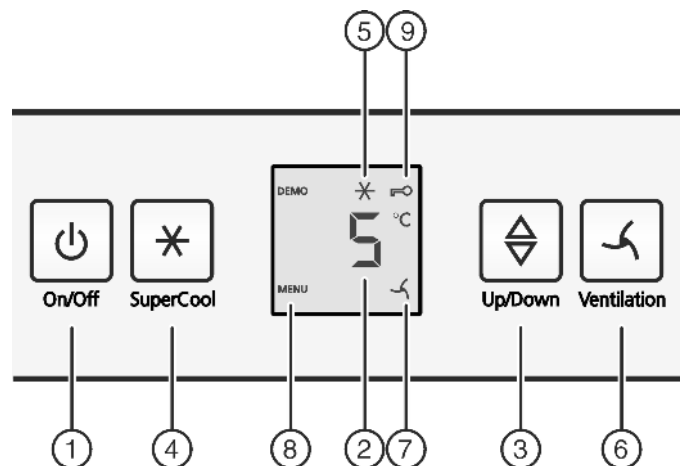

Fig. 3
- ▶ Press the On/Off button *Fig. 3 (1)*.
- ▶ Press the SuperCool button *Fig. 3 (4)* for about 5 seconds.
- ▷ The Menu symbol is shown on the display, *Fig. 3 (8)*.
- ▶ Confirm briefly with the SuperCool button *Fig. 3 (4)*.
- ▷ The child lock symbol, *Fig. 3 (9)*, lights up on the display.
- ▶ Briefly press the On/Off button *Fig. 3 (1)*.
- ▶ Call up temperature function: press the setting button *Fig. 3 (3)*.
- ▶ Change the temperature in 1 °C steps: Press the setting button *Fig. 3 (3)* until the required temperature is indicated in the temperature display.
- ▶ Briefly press SuperCool button *Fig. 3 (4)*.
- ▷ The SuperCool *Fig. 3 (5)* symbol lights up in the display.
- ▷ The SuperCool symbol *Fig. 3 (5)* goes out in the display.